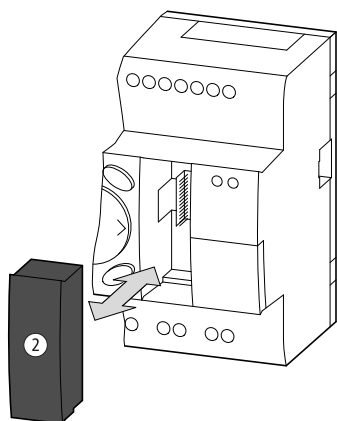

Figure 64: Connecting and removing the memory card ②
- Remove the cover from the interface and connect the connector memory card → Figure 64, page 66.